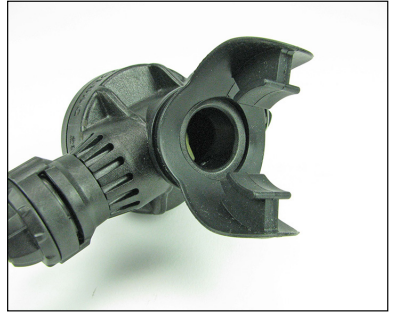

Figure 20
3. Rotate the mouthpiece to preferred position (*Fig. 20*).